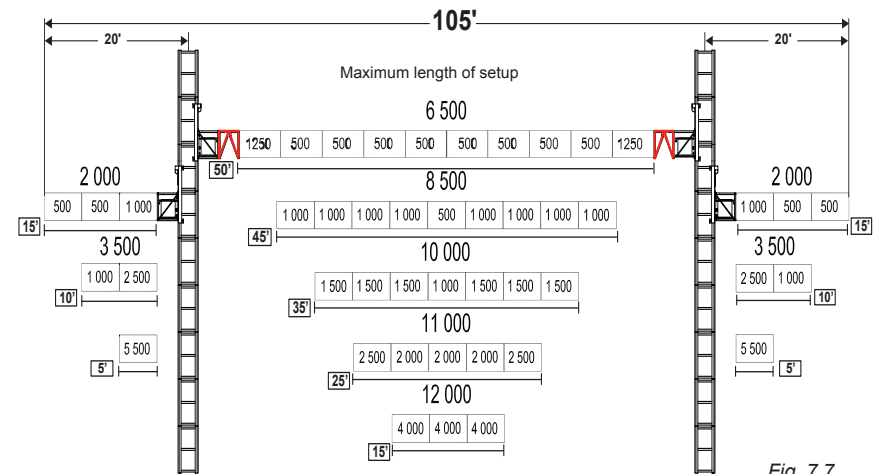

Fig. 7.7
**NOTE:** The configuration illustrated in fig. 7.7 (above) requires the use of two motorized units and two optional twin mast adapters (shown in red).